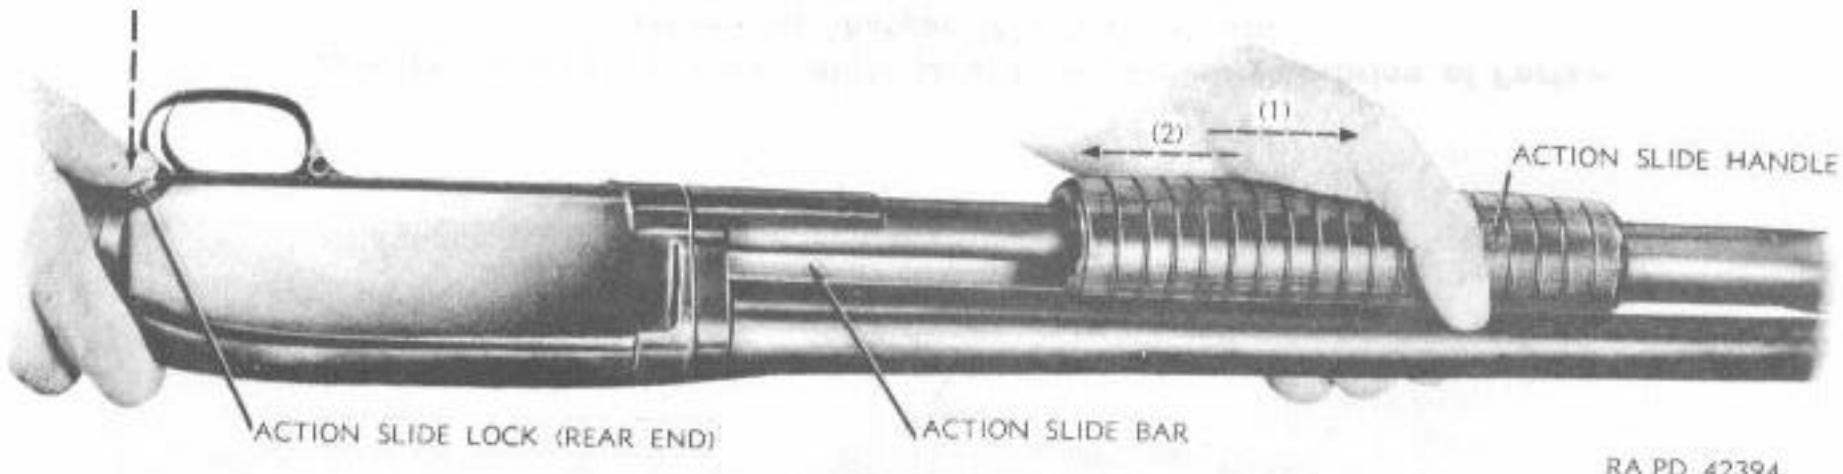

Figure 28—Disengaging Action Slide Lock from Action Slide Bar—Winchester Shotgun M12
b. Before the action slide can be retracted, however, the action slide lock must be disengaged from the action slide bar (fig. 28). To accomplish this, the action slide handle must be moved slightly forward to allow the lock to disengage. If the gun has been fired, and consequently the hammer is forward, the only movement necessary is to move the action slide handle forward slightly, and then reciprocate it as above, as the descending hammer has already partly disengaged the lock. If, however, the hammer is in the cocked position, it is necessary to press up the rear end of the action slide lock which is visible in the rear lower face of the receiver just to the left of the trigger before moving the action slide handle.